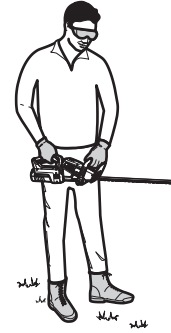

Fig. 9
- Stand in the operating position (Fig. 9). Stand up straight. Do not bend over.